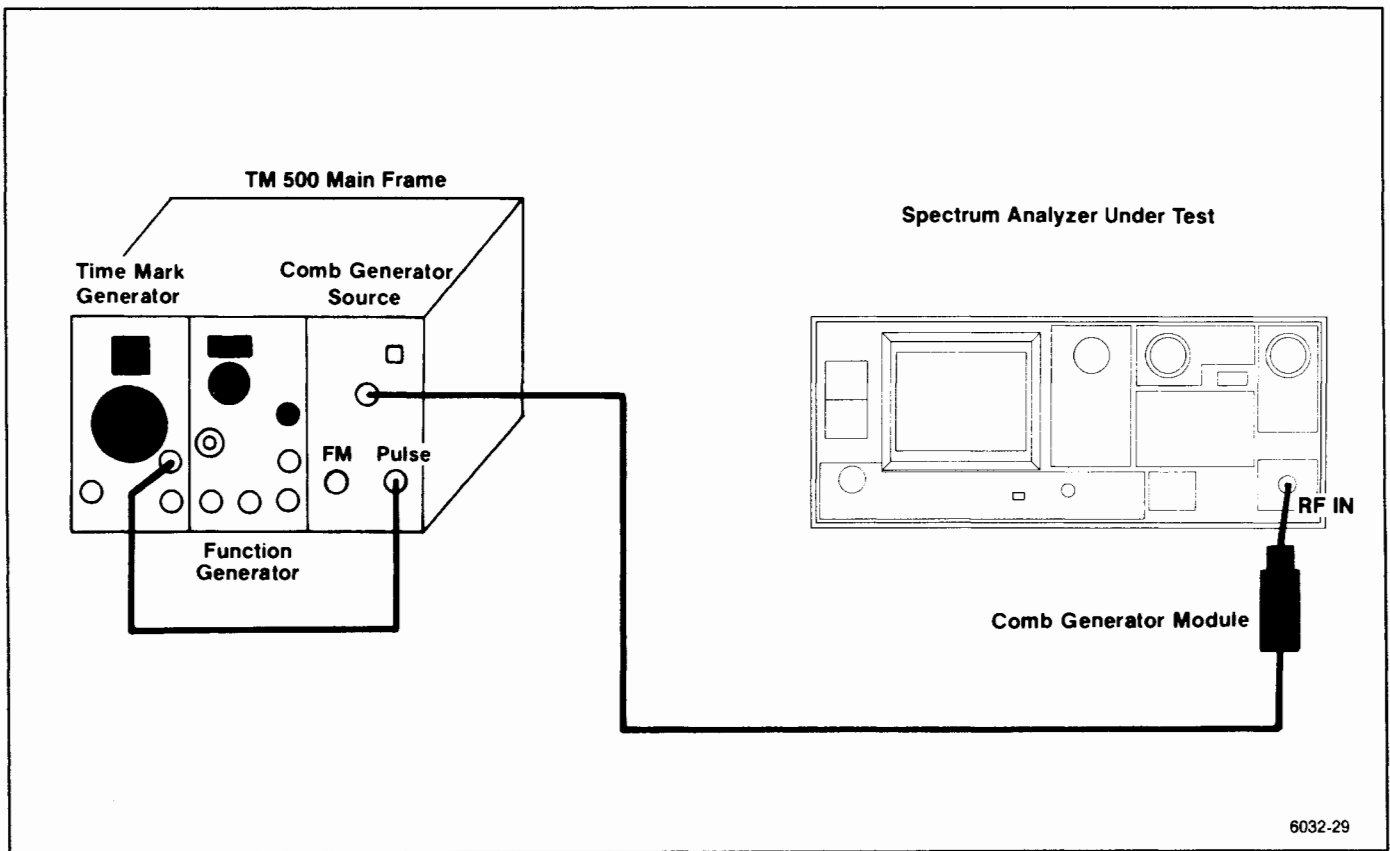

Figure 6-18. 2182 MHz 2nd LO frequency accuracy test setup.
- a. Connect the test equipment as shown in Figure 6-18.